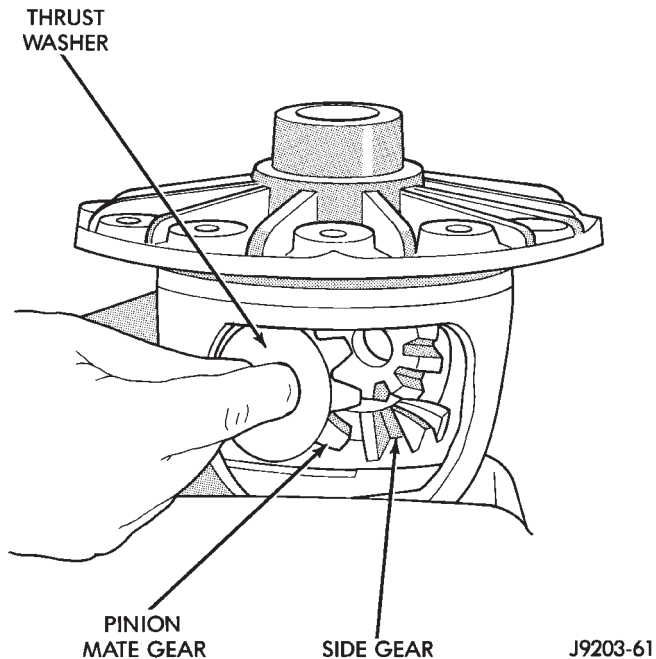

Fig. 51 Pinion Mate Gear Removal
- (3) Remove the pinion gear mate shaft from the differential case and the pinion mate gears.
- (4) Rotate differential side gears and remove the pinion mate gears and thrust washers (Fig. 51).
- (5) Remove the differential side gears and thrust washers.